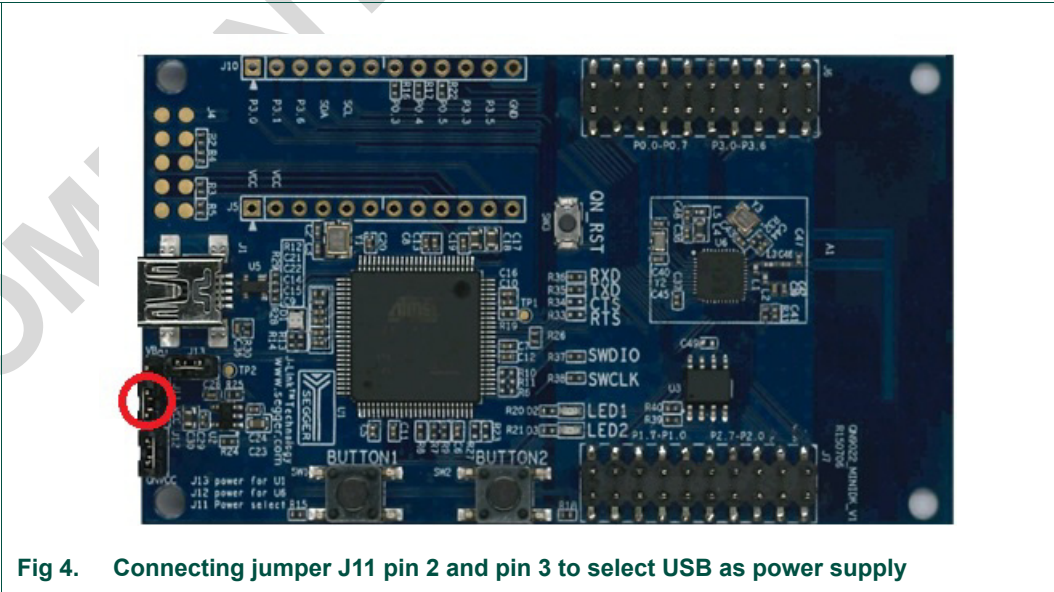

Fig 4. Connecting jumper J11 pin 2 and pin 3 to select USB as power supply
- 2. Battery-power mode: The CR2032 supplies power to QN9022 and optional sensor connector when it is in battery-power mode. The J-Link OB still uses the LDO as power supply via USB cable. When using USB interface as a power supply, connect the jumper J11 pin 2 and pin 3; see Figure 4.